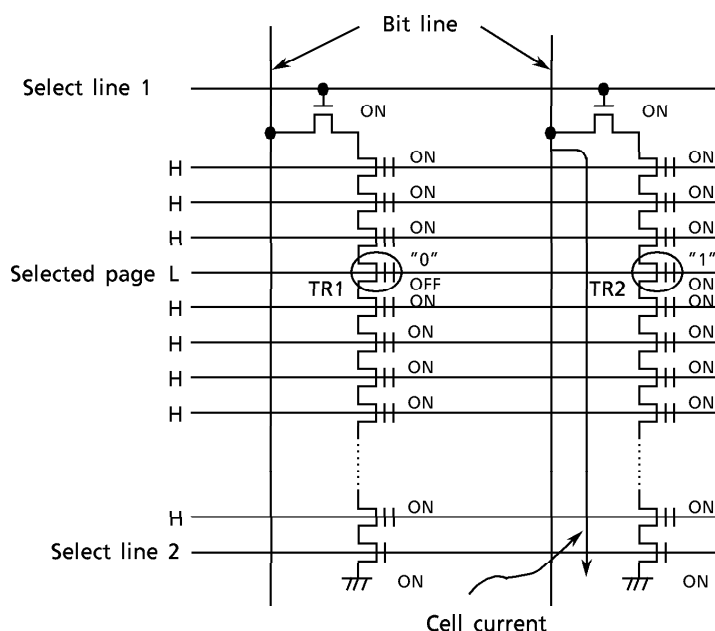

Figure 20. TC5816 Read Device Physics
Figure 20 shows memory cell level details of the Read operation mechanism:
- (1) A high voltage is applied to Select lines 1 and 2 in the block which includes the selected page, so that the 16 NAND memory cells are connected to the Bit line and ground.
- (2) 0 volts is applied to the control gates of the selected page and a high level voltage is applied to the control gates of the unselected pages.
- (3) In Figure 20, transistor TR2 with data "1" turns on, transistor TR1 with data "0" turns off, and all other unselected transistors turn on.
- (4) The precharged bit line tied to TR2 is discharged through TR2 as cell current flows to ground, while the precharged bit line tied to TR1 remains high because current does not flow. The sense amplifiers tied to the bit lines thus sense the voltage levels as "1" and "0" respectively.